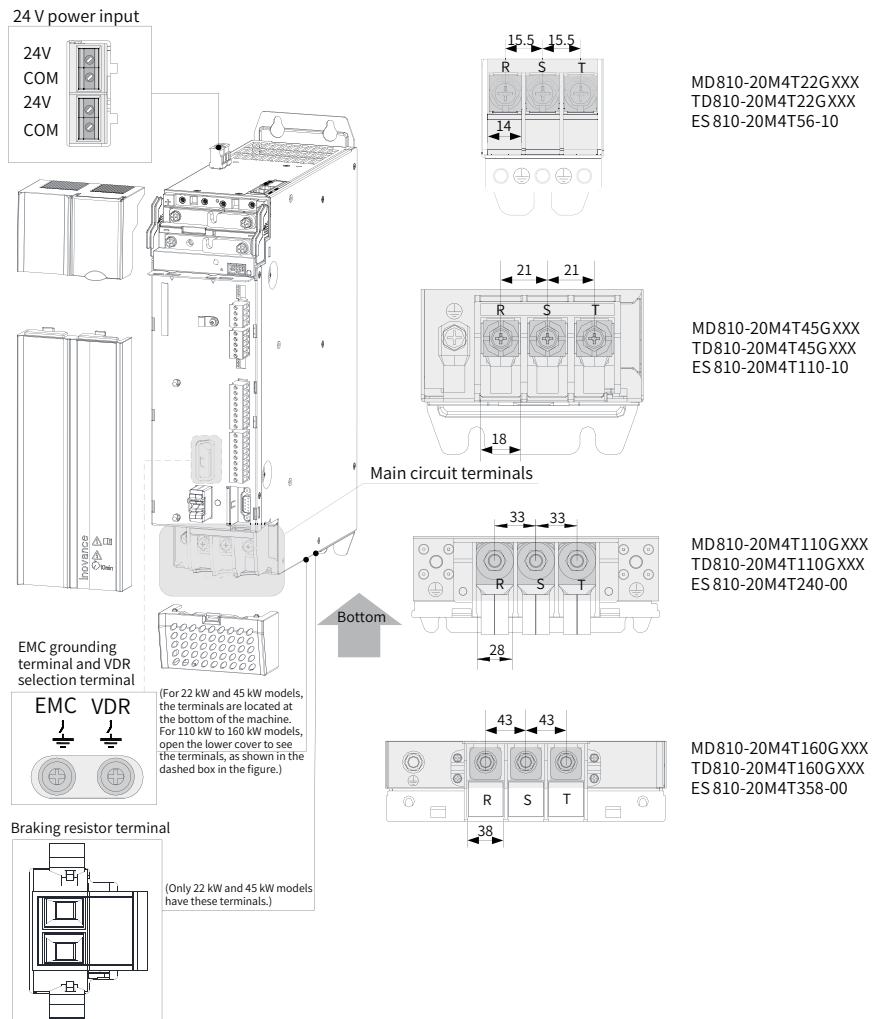
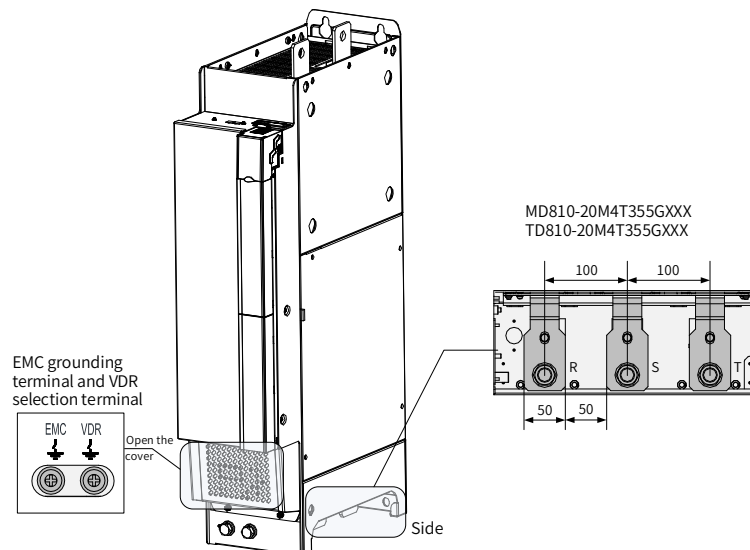

Figure 3-2 Terminal arrangement and size of the power supply unit (booksize, unit: mm)
Figure 3-3 Terminal arrangement and size of the power supply unit (vertical tower, unit: mm)
- Where a leakage circuit breaker is installed, if leakage protection trips during startup, the screw of the safety capacitor (EMC) jumper to ground may be removed. For specific locations of the VDR and safety capacitor (EMC) jumpers to ground, see "Figure 3-2 Terminal arrangement and size of the power supply unit \(booksize, unit: mm\)" and "Figure 3-3 Terminal arrangement and size of the power supply unit \(vertical tower, unit: mm\)".